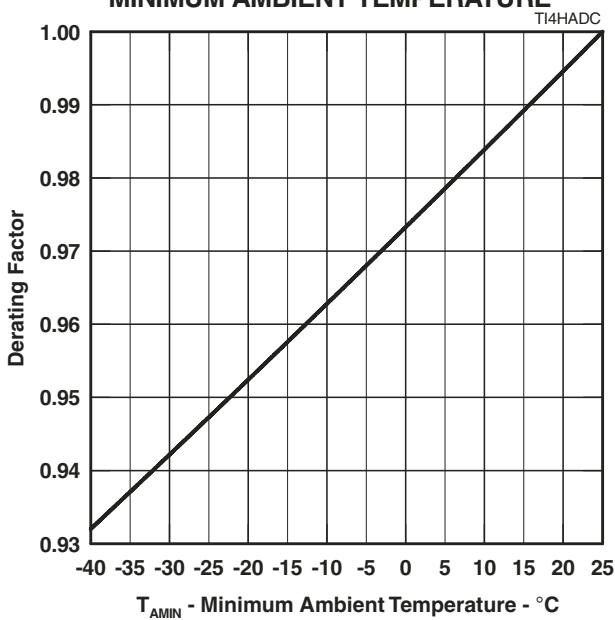

Figure 7.
- NOTES: 1. See Figure 7 for voltage values at other temperatures.